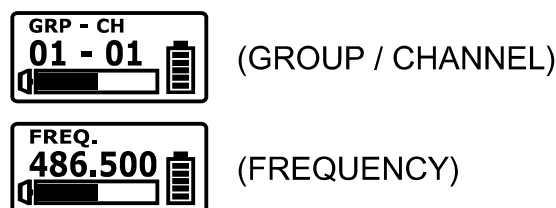

Fig. 9
#### (A) Group (GRP) / Channel (CH) / Frequency (FREQ.). Fig. 9:
- (1) Group / Channel / Frequency is synced from the receiver and cannot be changed.
- (2) To change Group / Channel / Frequency, do it at the receiver and then press ACT button to sync.